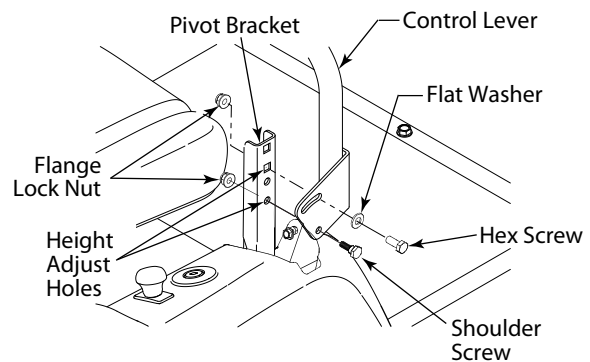

Figure 6-5
- While supporting the control lever to keep it from falling, remove the hex insert flange lock nut and shoulder screw from the bottom of the control lever and pivot bracket. Refer to Figure 6-5.
If not already loose, loosen the flange lock nut and rotate the control lever either forward or rearward to the desired position. See Figure 6-5.